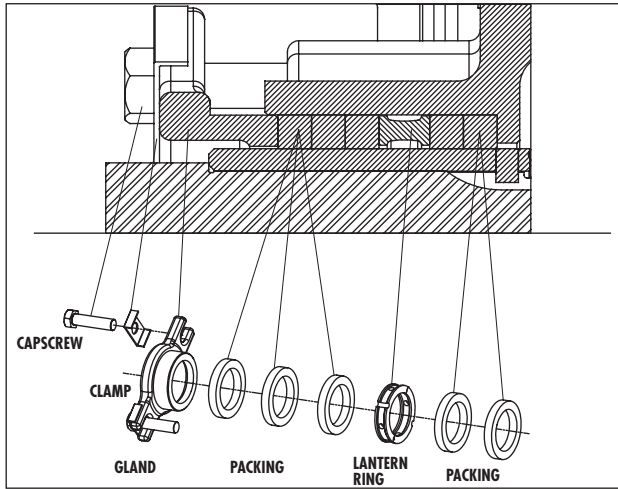

Figure 10. Packing.
- a. Remove capscrews (65), gland lamps (22) and gland halves (23).
- c. Thoroughly clean the shaft sleeve (25) and packing cover (26) seal cavity. Thoroughly inspect the bore of the Pump Packing Cover (26) and the Shaft Sleeve (25) for wear or signs that replacement is needed.
- d. Place one ring of packing (28) into the packing cover (26). On successive rings of packing stagger the packing joints to prevent excessive leakage through the packing box. If a lantern ring (29) is used, place a second ring of packing (28) into the cover before installing lantern ring. *Refer to Fig. 10.*
1. Replace the shaft sleeve (25) or packing cover (26) if there is evidence of surface damage like pitting, corrosion, nicks or scratches.
2. Replace wear ring(s) (7 & 16) in casing (6) and cover (26). Rings should not be hammered into place. Use a press or clamp the parts in a bench vice using wooden blocks to protect the rings.
- Place one ring of packing (28) into the packing cover (26). On successive rings of packing stagger the packing joints to prevent excessive leakage through the packing box. If a lantern ring (29) is used, place a second ring of packing (28) into the cover before installing lantern ring. Refer to Fig. 10.